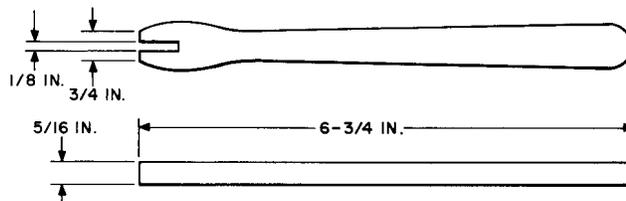

Fig. 7—AECO H-13701 Adjuster Tool
**2.07 AECO H-13701:** The AECO H-13701 tool (Fig. 7) is an adjuster used on solenoid-type master switches and plunger-type line and out-trunk switches.